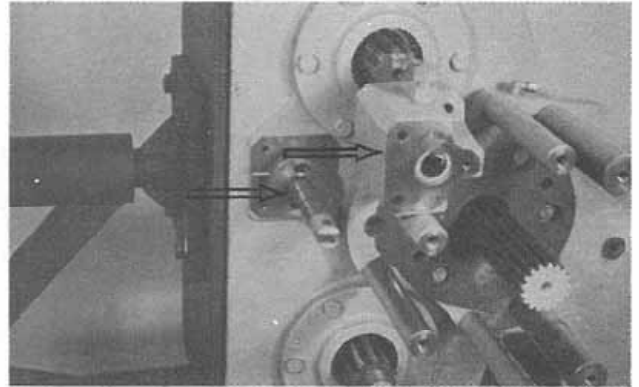

Figure 2:
3. Remove the detent block and shift rod adjustment block from the front of the housing (Fig. 2).